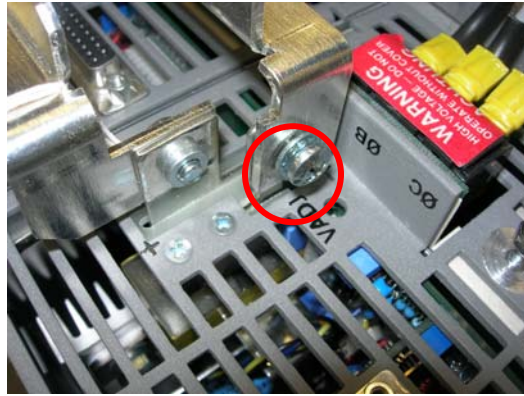

Figure 32 Location of Screw that Connects Power Supply to Positive and Negative Bus Bars
16. Remove the two (2) screws that connect the individual power supply to the positive and negative bus bars using a Phillips screwdriver. (Refer to Figure 32.)